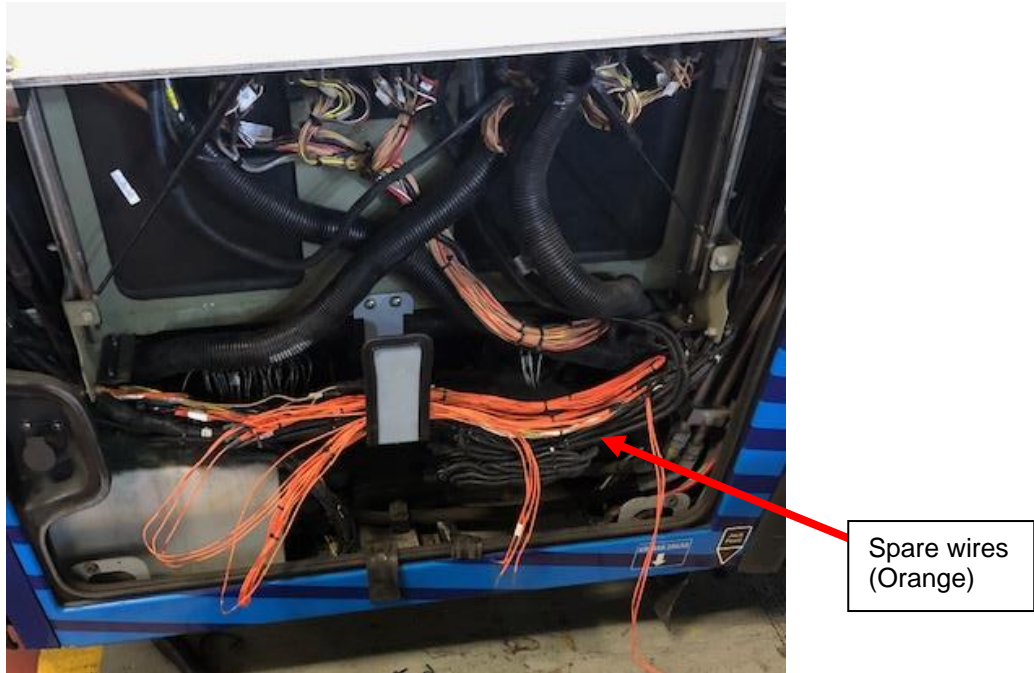

Figure 9 - Exterior side console view spare harness (Loom removed)
9. Cut the Plastic Ties and remove the Loom as shown in Figure 9.